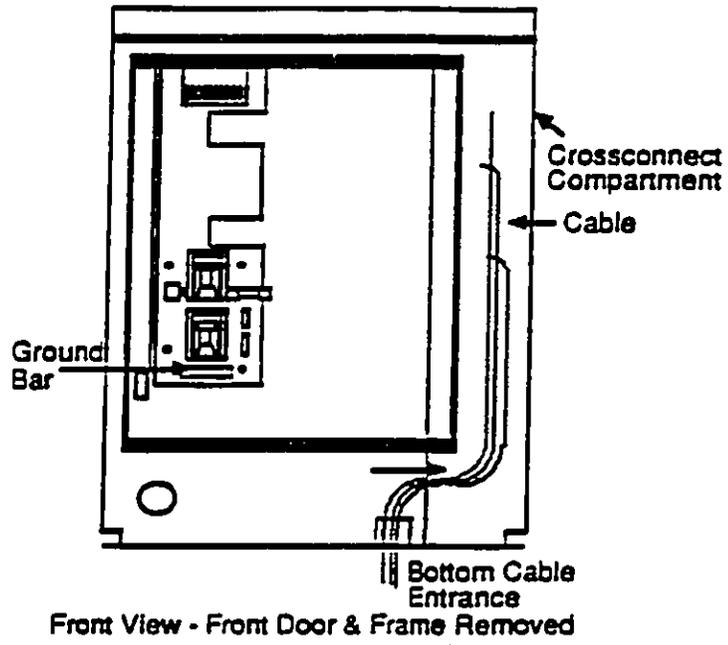

Fig. 2-11
- 4 Route the cables at the bottom of the cabinet through the hole provided at the bottom of the divider wall, and up into the crossconnect compartment (see Fig. 2-11). Secure the cable with tie wraps.